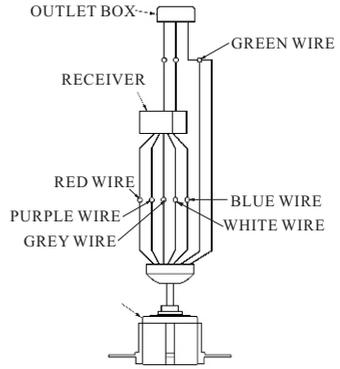

FIG. 7
2. Connect the red wire from receiver to the red wire from fan with wire nut. Connect the purple wire from receiver to the purple wire from fan with wire nut. Connect the blue wire from receiver to the blue wire from fan with wire nut. Connect the grey wire from receiver to the grey wire from fan with wire nut. Connect the white wire from receiver to the white wire from fan with wire nut. Connect the green wire from ceiling, and green wire from hanger bracket with wire nut. (see Fig. 7)